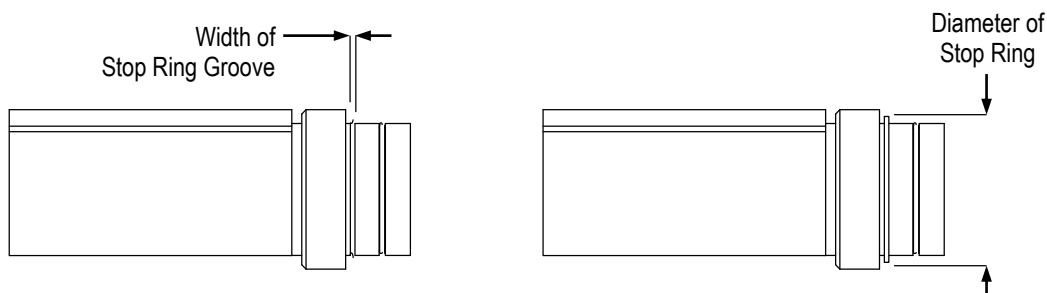

Figure 11
Figure 11 lists some abnormal conditions along with the probable cause and remedy for the condition. If the condition cannot be isolated, call the number at the bottom of page 1.
1. Using a caliper, measure the width of the stop ring groove. See Figure 11. Using this dimension, refer to Figure 12 for the stop ring to be used.
6. Using a caliper, measure the diameter of the stop ring. See Figure 11. Take measurements at several different locations around the ring. If the measurements are within the tolerance (for the stop ring being used) provided in Figure 12, the tooling assembly is considered dimensionally correct. If any of the measurements are not within the tolerance, refer to Paragraph 9.2 for information on obtaining further evaluation and repair.